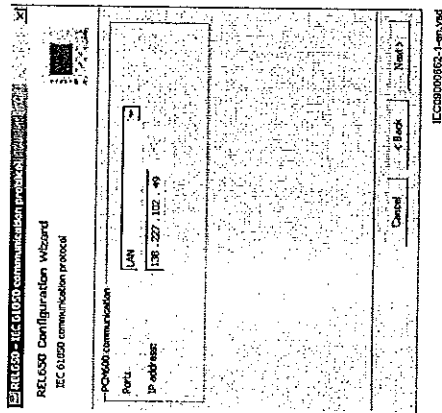

Figure 20: *PCM600: Communication port and IP address*
5. Select the port and insert the IP address of the physical IED to configure, see Figure 20.